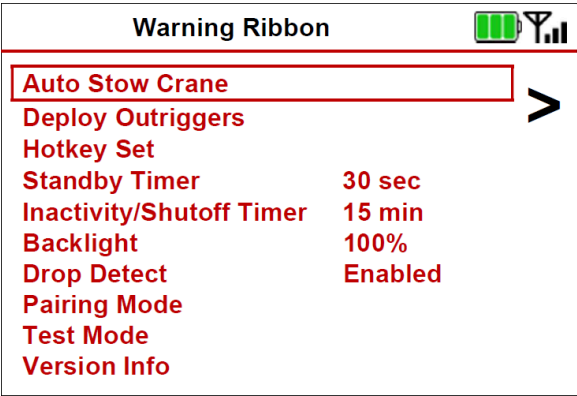

Figure 2-61
The standby screen is active when the remote goes into Standby Mode. This occurs when there is no user input for the number of seconds set in the “Standby Timer” setting in the menu screen (Figure 2-61). When this mode is activated, a timer begins for the duration set in the “Inactivity/Shutoff Timer” setting. When that timer reaches its end, the remote will be turned off. When in Standby Mode, the remote will cease to transmit and will not activate any functions. To exit Standby mode, or turn the remote back on after shutoff, press the transmitter on button (Figure 2-56, Item 2). The display will populate the main screen values and images when the receiver is reconnected to the main controls system.
2.11.19.4 Menu Screen (Figure 2-61).